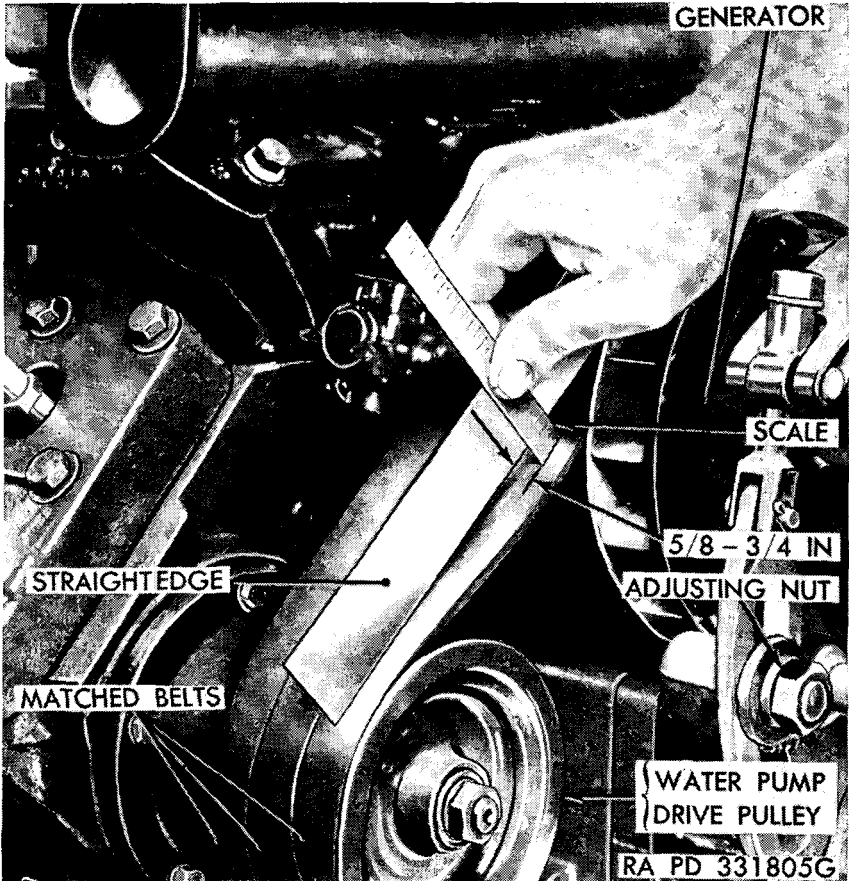

Figure 37. Belt tension.
b. **BELT TENSION.** The tension of the three water pump and generator belts must be adjusted if belts can be compressed more than three-quarters of an inch between pulleys (fig. 37).
- (4) *Adjust belts.* Loosen adjusting nut and pivot nut for generator cradle. Insert large screwdriver or utility bar between front cover and cradle and raise generator and cradle until slack in belts between water pump pulley and generator pulley is five-eighths to three-quarters of an inch, as measured with a straightedge pressed firmly on belts (fig. 37). After belts have been adjusted properly, tighten adjusting nut and pivot nut.
- (5) *Install radiator air outlet grille.* Install the radiator air outlet grille using the six screws.